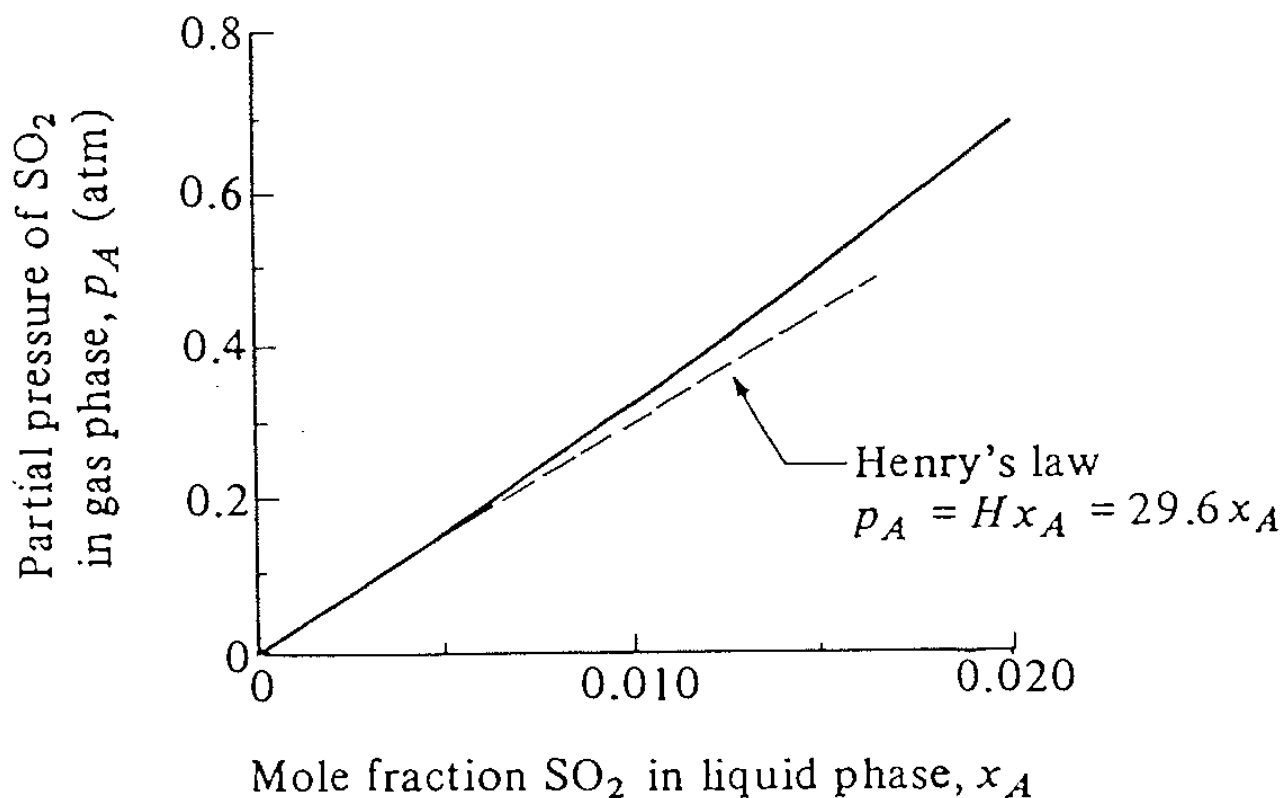

Figure 6: Equilibrium plot for water- SO_2 system at $20^\circ C$.
- b) Calculate the flow-rates and compositions of the outlet phases using the data in Fig. 6.